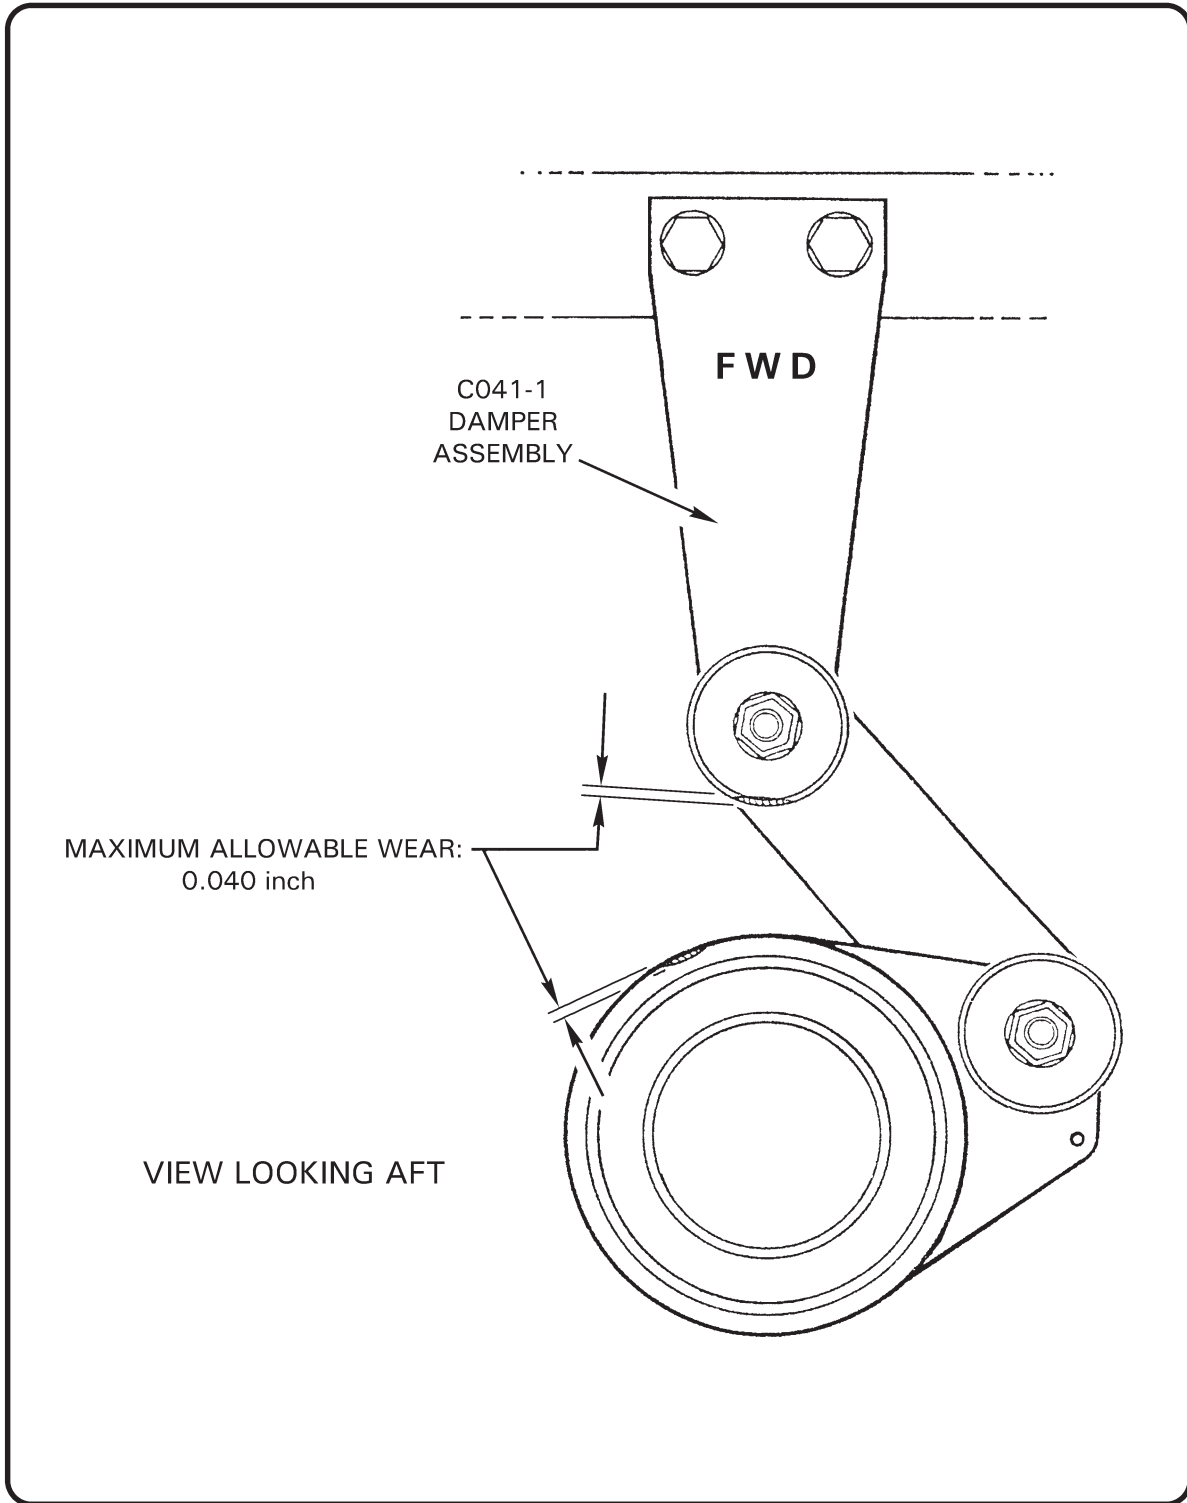

FIGURE 2-8 TAIL ROTOR DRIVE SHAFT DAMPER BEARING INSPECTION
**Tail Rotor Drive Shaft Damper Assembly:** Verify no obvious damage. Verify integrity of bearing seals. Inspect bearing housing for excessive wear (see Figure 2-8). Verify bearing's inner race-to-drive shaft torque stripe is intact and no evidence of bearing slippage. Verify proper orientation, security, and smooth operation.